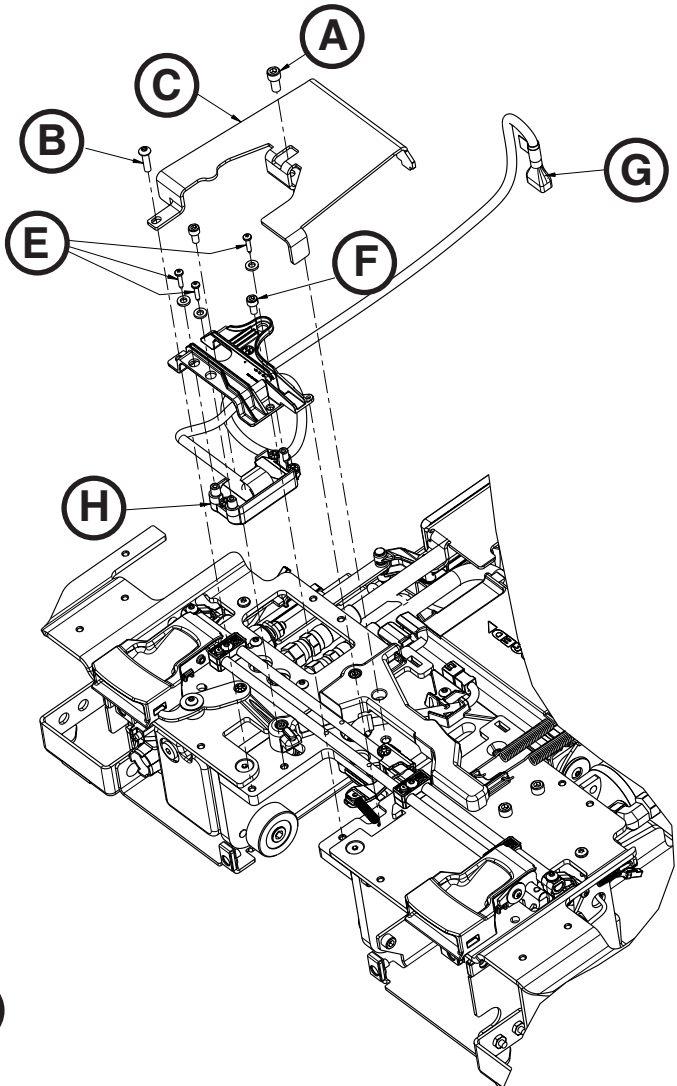

Figure 78
2. Using a 5/32" hex wrench, remove the screw (A) that secures the inductive coil assembly to the frame (Figure 78).
3. Using a 3/16" hex wrench, remove the screw (B) that secures the inductive coil assembly to the frame (Figure 78).
4. Remove the cover (C) (Figure 78). Save for reinstallation.
6. Using a T25 Torx driver, remove the screws (E) that secure the charge bracket (Figure 78).
7. Using a 5/32" hex wrench, remove the screw (F) that secures the charge bracket (Figure 78).
9. Unplug the cable (G) from the trolley control board, and remove the inductive coil (H) (Figure 78). Discard the inductive coil.